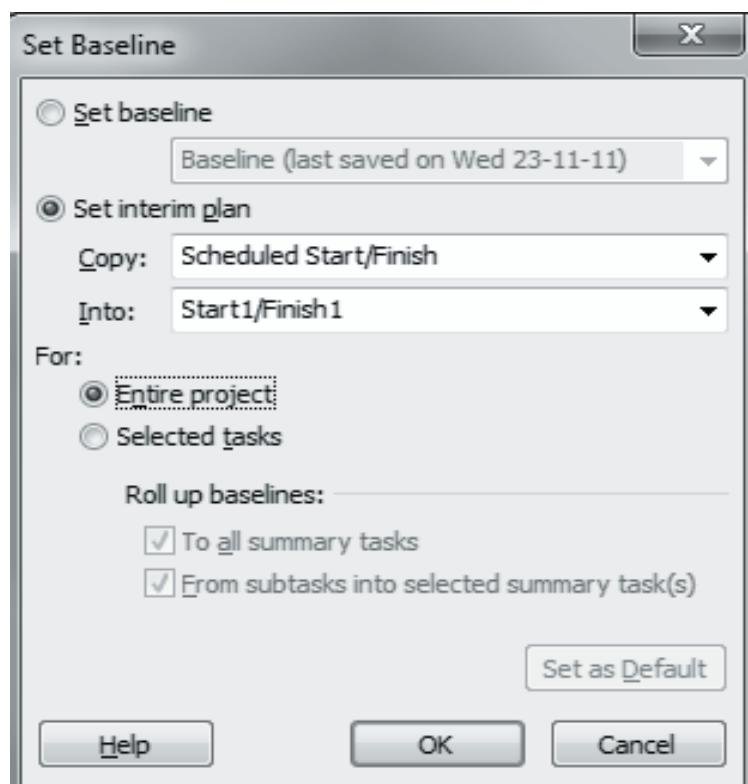

Figure 9.5: Saving Interim Plans Using Set Baseline Dialog Box
3. Select **Set interim plan** as shown in figure 9.5.